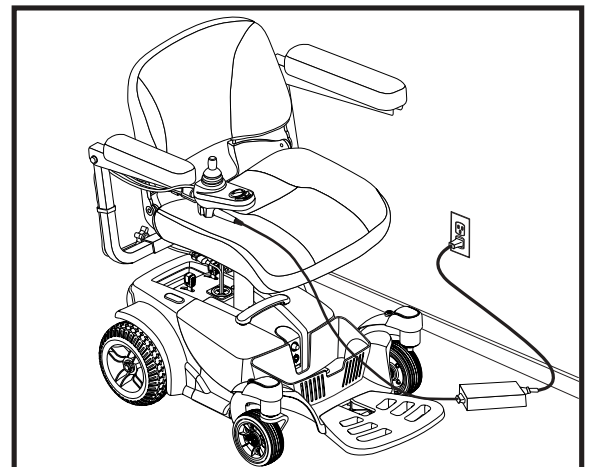

Figure 24. Battery Charging through the Controller
3. Plug the off-board charger into the off-board charger/programming socket located on the controller. See figure 24.